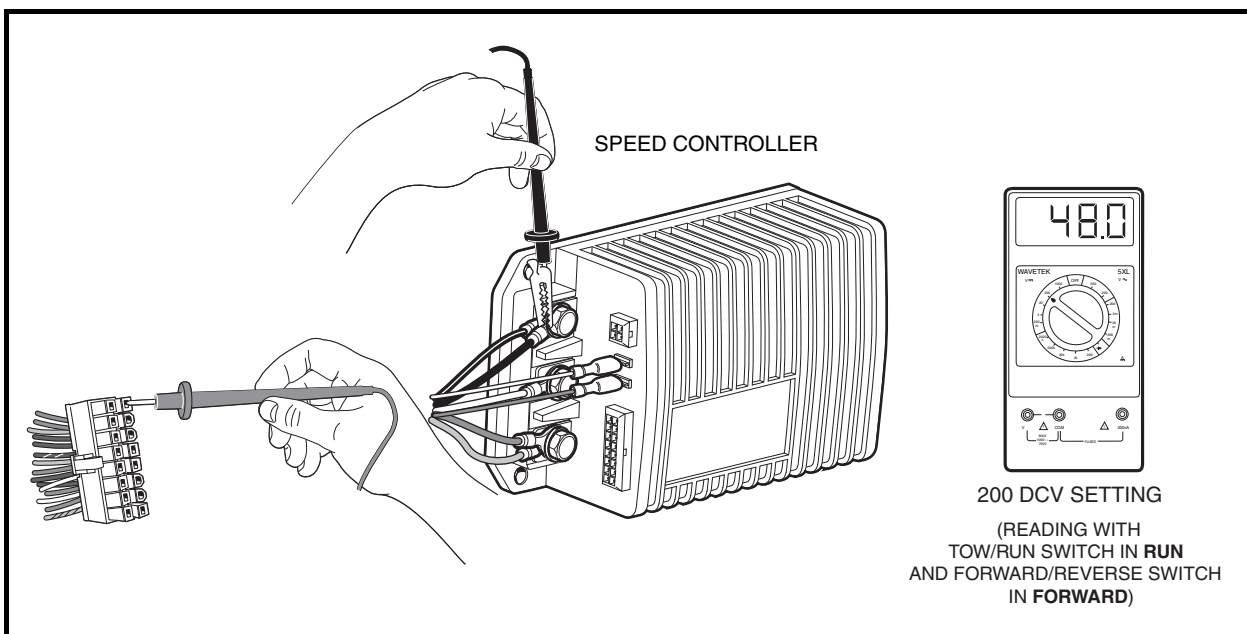

Figure 11-18 Pins 8 and 16 Test
- Set a multimeter to 200 volts DC, insert the red (+) probe of the multimeter into pin 8 (brown wire) of the 16-pin connector. See following **CAUTION**. Using an alligator clip, connect the black (–) probe to the B– terminal of the speed controller (**Figure 11-18, Page 11-31**).